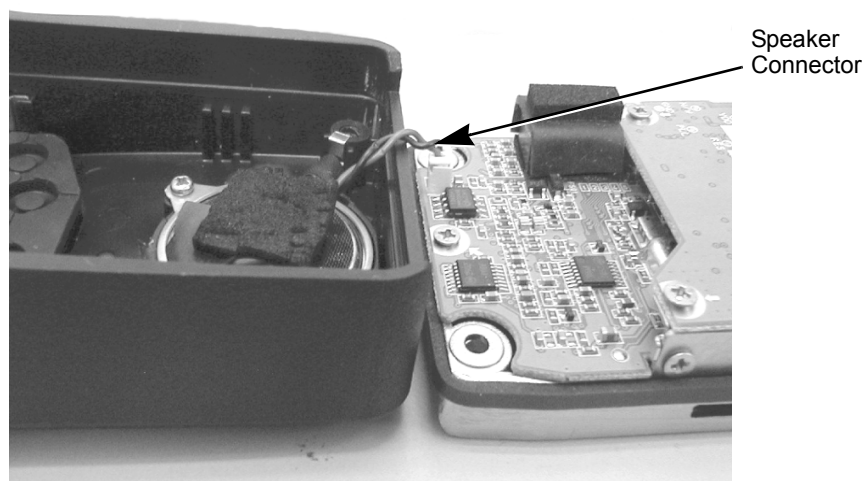

Figure 2-4.
9. Remove the speaker connector, which connects between RF Board and the internal speaker on the front cover (See Figure 2-4).